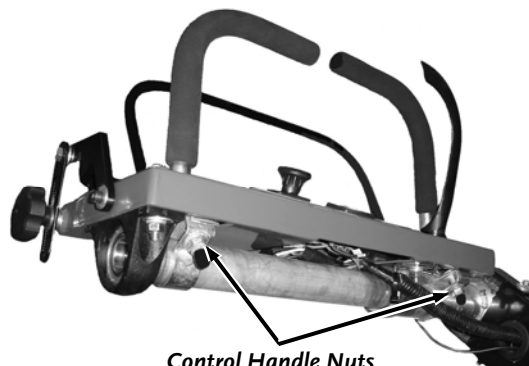

Figure 33
2. Using a 9/16" Wrench, loosen the Nuts on the lower end of the Control Handles (**Figure 33**).